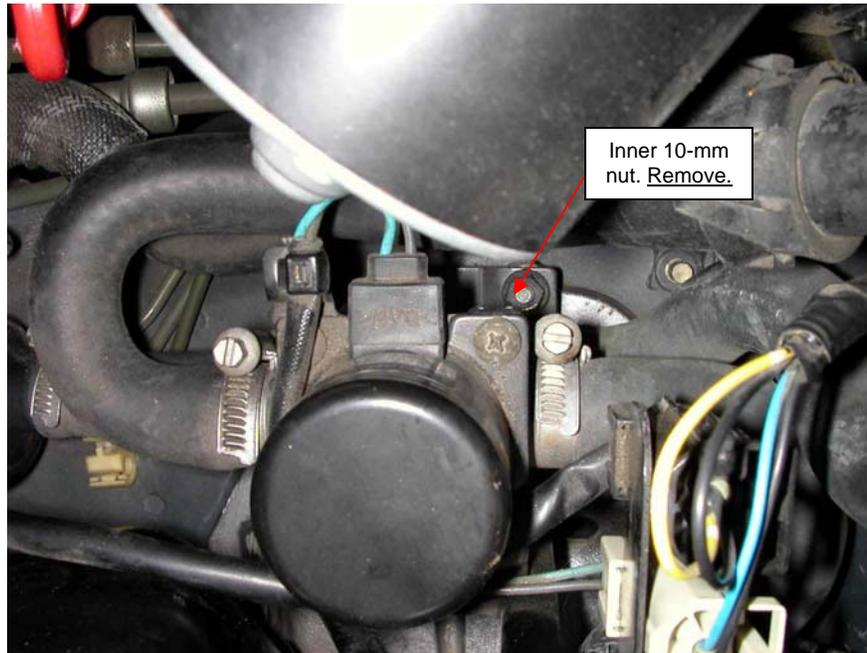

Fig. 16
15. Remove the inboard, 10-mm nut securing the heater flow-control valve (Fig. 16)